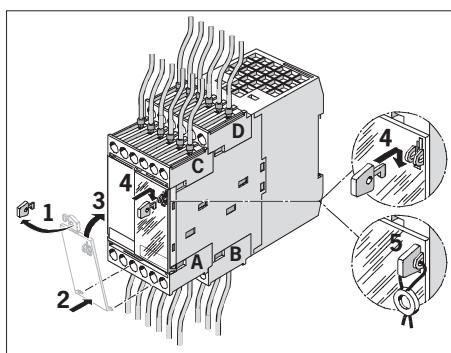

Fig. 3: Fitting and sealing - cover
⚠ It is essential to fit the enclosed cover in order to protect against electrostatic interference during operation (see Fig. 3).
- ▶ Fit cap and lock with wire and seal (see Fig. 3).